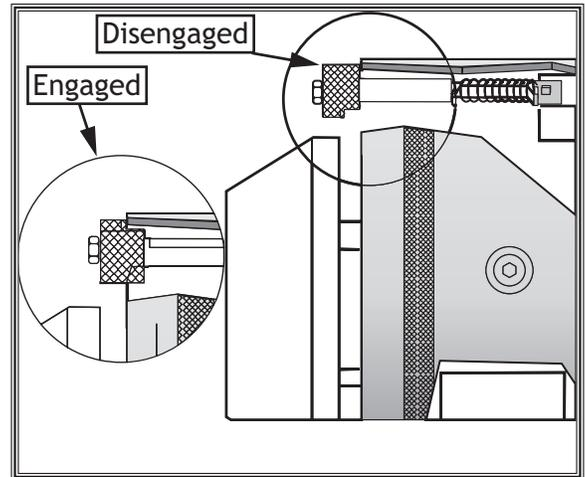
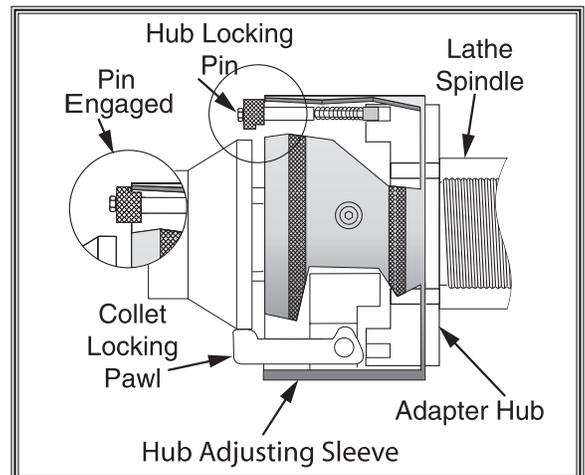

Figure 11. Hub locking pin positions.
Figure 12. Collet locking mechanism.
2. Disengage the hub locking pin (**Figure 11**) by pulling the pin out and turning it so the flat part of the pin is turned toward the outer rim of the hub adjusting sleeve. The mechanism that locks the collet is depicted in detail in **Figure 12**.
1. Disengage the hub locking pin so the flat part of the pin is turned toward the outer rim of the adjusting hub as shown in **Figure 11** on **Page 7**.
4. Rotate the draw tube clockwise five to eight turns to engage the new collet threads. Engage the hub locking pin back into place as shown in **Figure 11**.